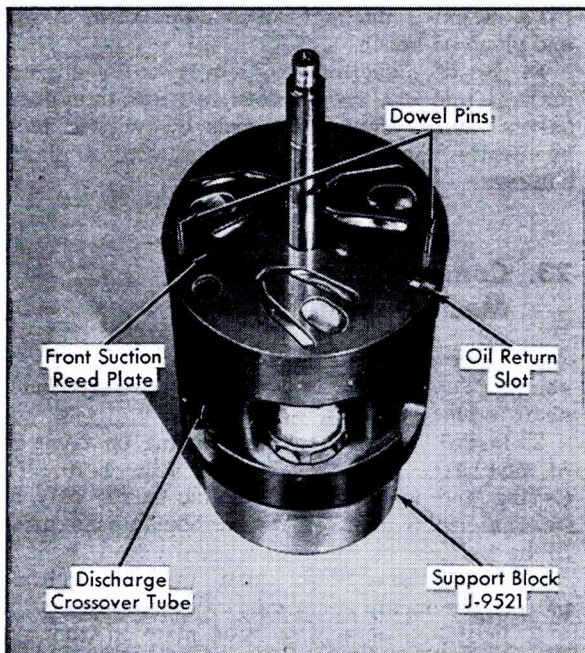

Fig. 1-71 Installing Front Suction Reed
4. Install front suction reed plate on front cylinder half. Align with dowel pins, suction ports, oil return slot, and discharge cross-over tube, Fig. 1-71.